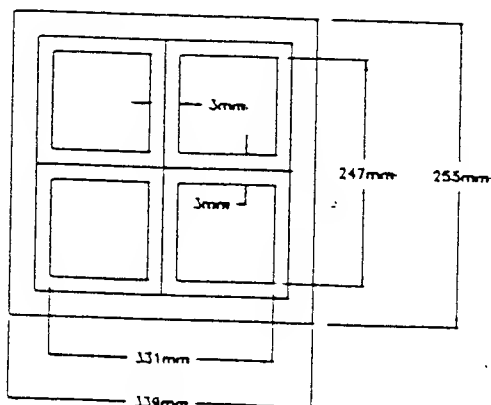

Fig. 4.3.1.6 Geometry Target Limits
Pre-adjust brightness to approximately 15FL with raster visible. Video must be centered in raster (R229) such that left hand visible raster is equal to or 2mm larger than right hand visible raster (see Fig. 4.3.1.4). The width control may be adjusted to bring the raster edges just within the bezel opening.
Start with circular magnets (centering magnets) in neutral position i.e. slotted ear of one magnet aligned with plain ear of other magnet, both positioned so that the ears are in the horizontal position of raster. Adjust magnets simultaneously and in opposite directions so as to avoid bending horizontal lines and centering active image within bezel gauge. (see Fig. 4.3.1.6).
This should center horizontally and vertically a cross hair target pattern such that center lines are within the target windows of Fig. 4.3.1.6 The vertical center line shall be at  $90^\circ \pm 0.5$  to the horizontal center line within a 2" radius of screen center.
- Turn R504 (dynamic focus modulation) to minimum. (CW)
- Tune T501 (dynamic focus phase) with non metallic screw driver to obtain symetrical pattern as per Fig. 4.3.1.8.1 with respect to video waveform.